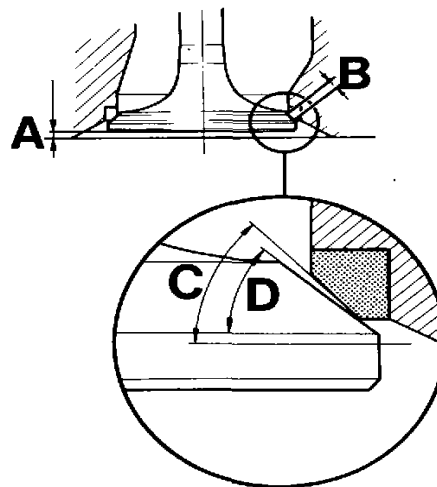

Fig. 34. Valve and valve seat
3. Ream or grind the valve seats (only enough to provide a good shape and contact). The seat angle should be 45° and 30° respectively. NOTE! If the dimension "A" (fig. 34), when measured with a new valve, exceeds 2.5 mm (0.10") for the 100-series or 1.5 mm (0.06") for the 120-series, then the valve seat should be replaced.
Valve seats should be replaced when the distance "A" in fig. 34, measured with a new valve exceeds 2.5 mm (0.10") for the 100-series or 1.5 mm (0.06") for the 120-series.